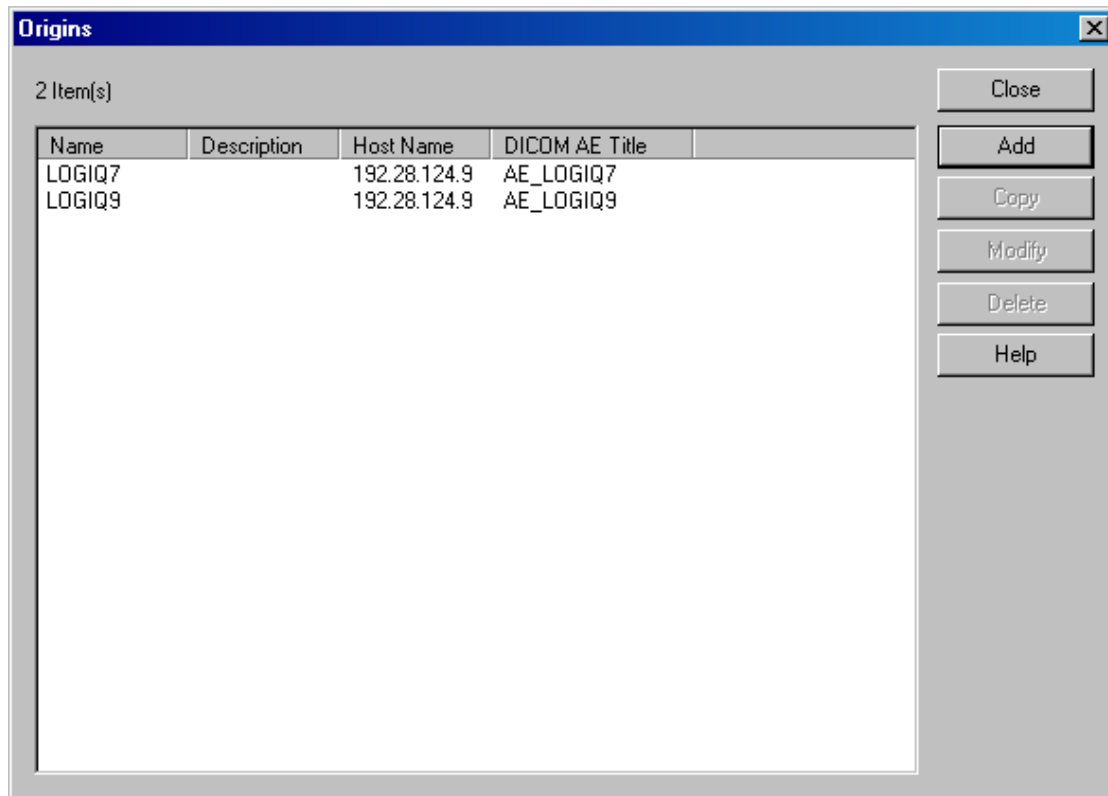

Figure 3-158 Configure Origins (Example)
- 4.) Click OK to add a new origin in the origins table. Please refer to Figure 3-158 for an example configuration.